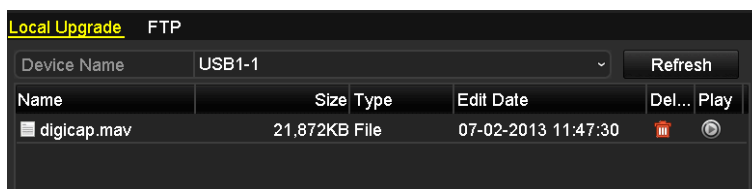

Figure 15. 6 Local Upgrade Interface
3. Click the **Local Upgrade** tab to enter the local upgrade menu, as shown in Figure 15. 6.